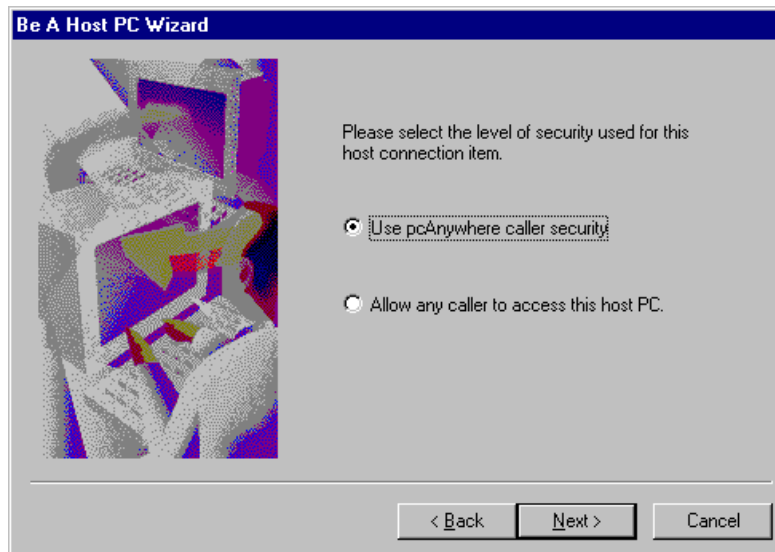

Figure 5-4. Security Level GUI
- e. The Security Level GUI will appear (Figure 5-4). Accept the default to use pcAnywhere calling security. We will setup the security parameters later in this procedure. Click on the Next button.